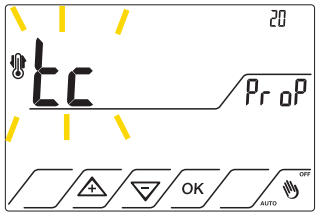

Fig.36
10.2.5 Press OK to confirm. The **tc** appears and flashes (System Cycle Time). It can choose between 5 values: 5, 10, 20, 30, 40 minutes. The factory setting is 20 minutes. Fig.36